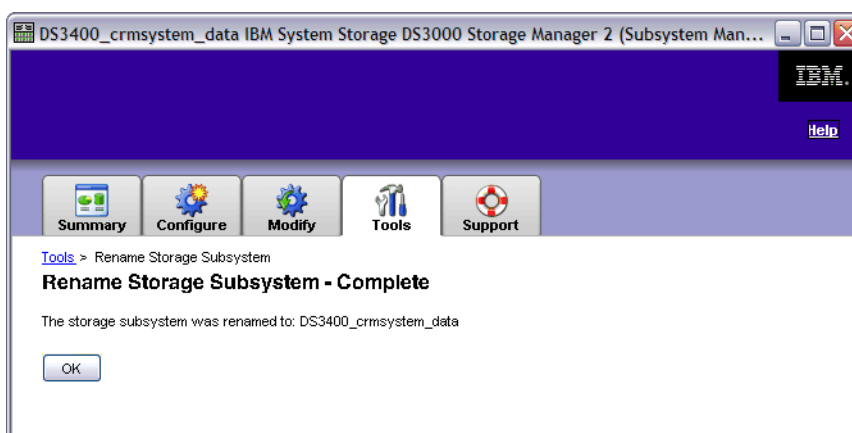

Figure 12-4 Rename Storage Subsystem - Complete
4. When the renaming process is complete, you will see a confirmation similar to Figure 12-4. Click **OK** to return to the Tools tab.